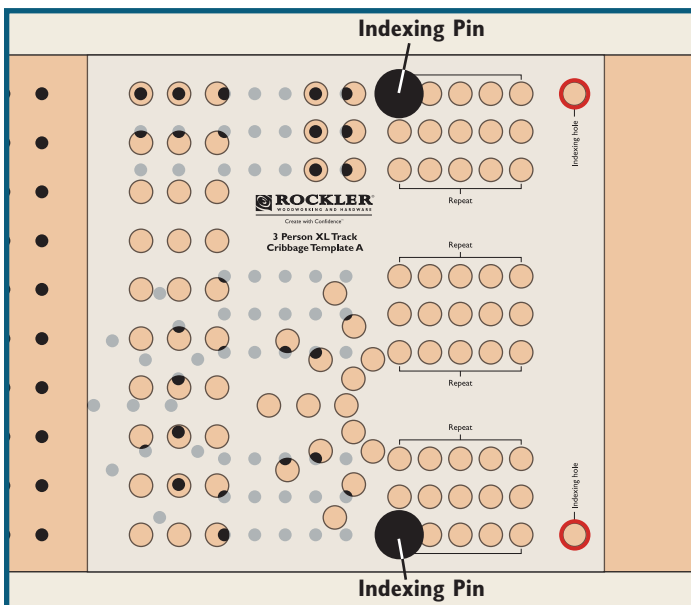
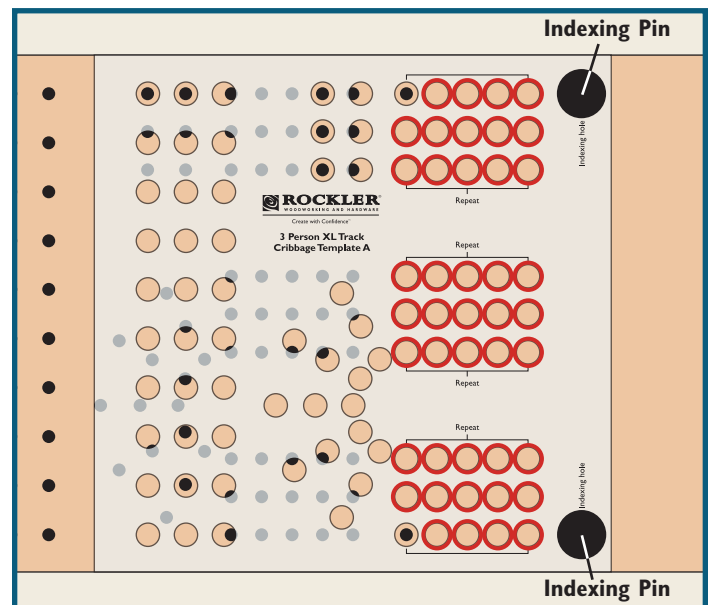

Fig. 3
Fig. 4
4. Remove the Indexing Pins and shift the Square Template so that the two rearmost outside holes in the "Repeat" section of the template are over the previous indexing holes. Press the Indexing Pins in these holes and drill the two holes outlined in red in **Fig. 3**.
5. Move the Indexing Pins to the new indexing holes and drill the holes outlined in red in **Fig. 4**.
6. Repeat Steps 4 and 5 four more times, drilling the holes outlined in red in **Fig. 3** and **Fig. 4**.